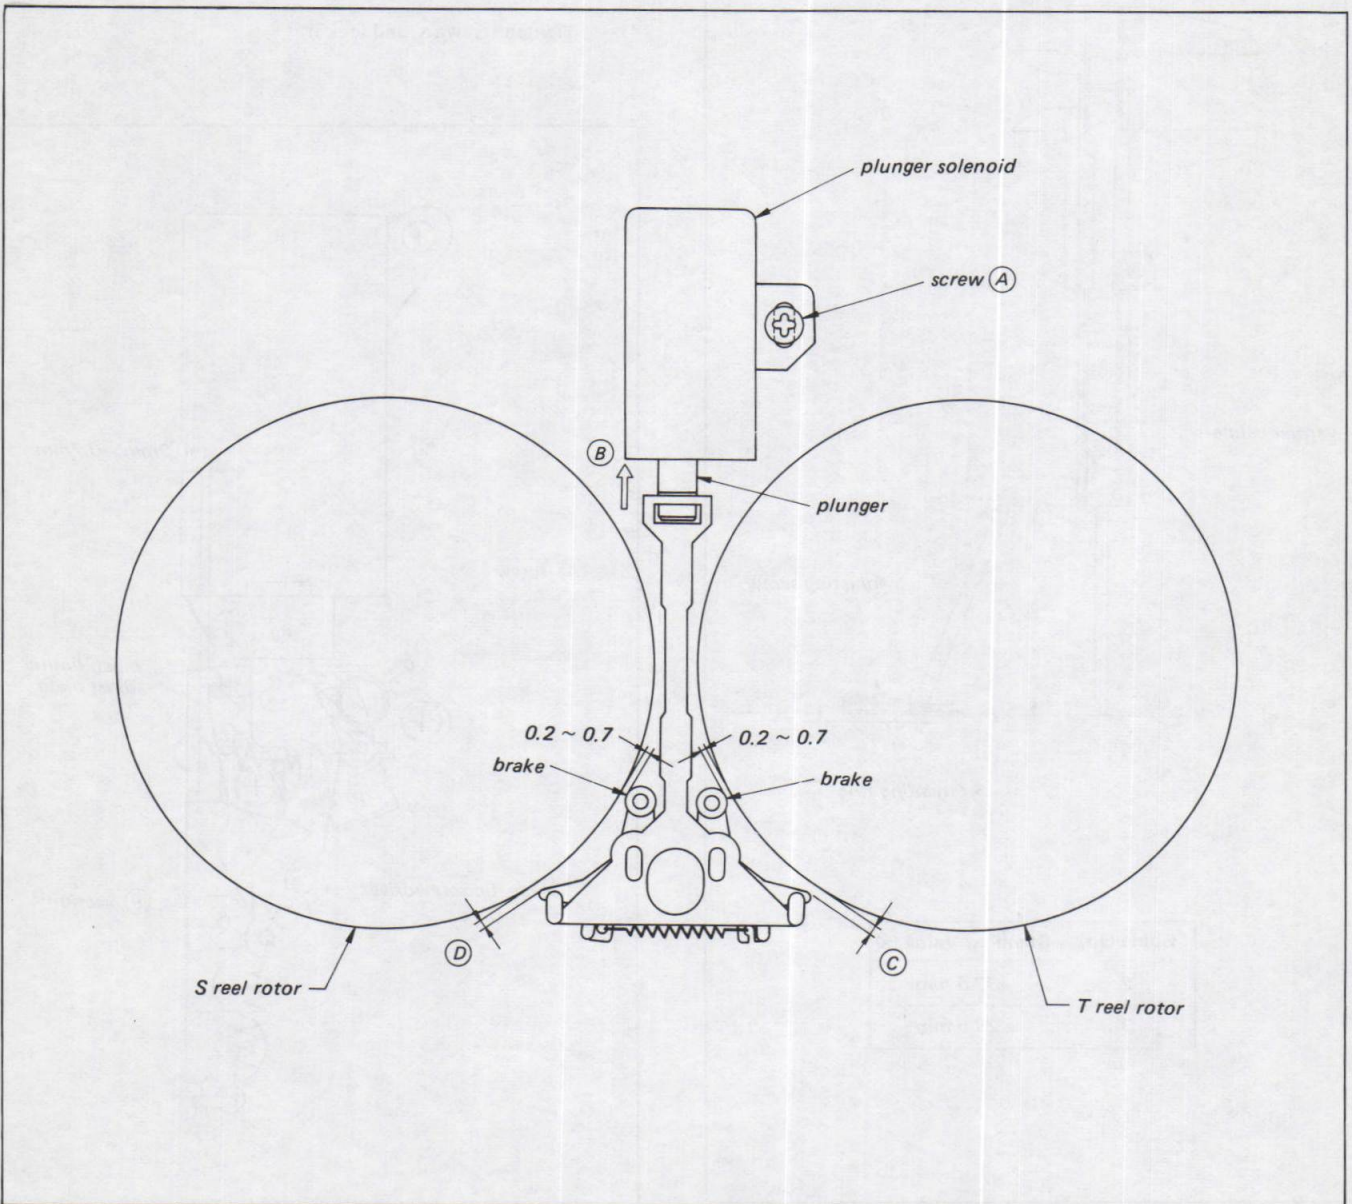

Fig. 3-19. Brake plunger adjustment
- 2) Loosen screw (A) on the plunger solenoid (Fig. 3-19).
- 3) Push the plunger in the direction of arrow (B) by hand until fully retracted.
- 4) Adjust the plunger solenoid so as to obtain clearances of 0.2 to 0.7 mm between the two brakes and S and T reel rotors. Tighten screw (A).